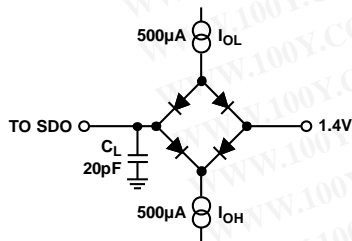
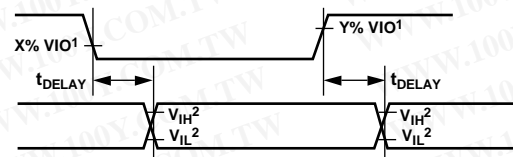

Figure 2. Load Circuit for Digital Interface Timing
Figure 3. Voltage Levels for Timing
-40°C to +125°C, VDD = 2.37 V to 2.63 V, VIO = 3.3 V to 5.5 V, unless otherwise stated. See Figure 2 and Figure 3 for load conditions.